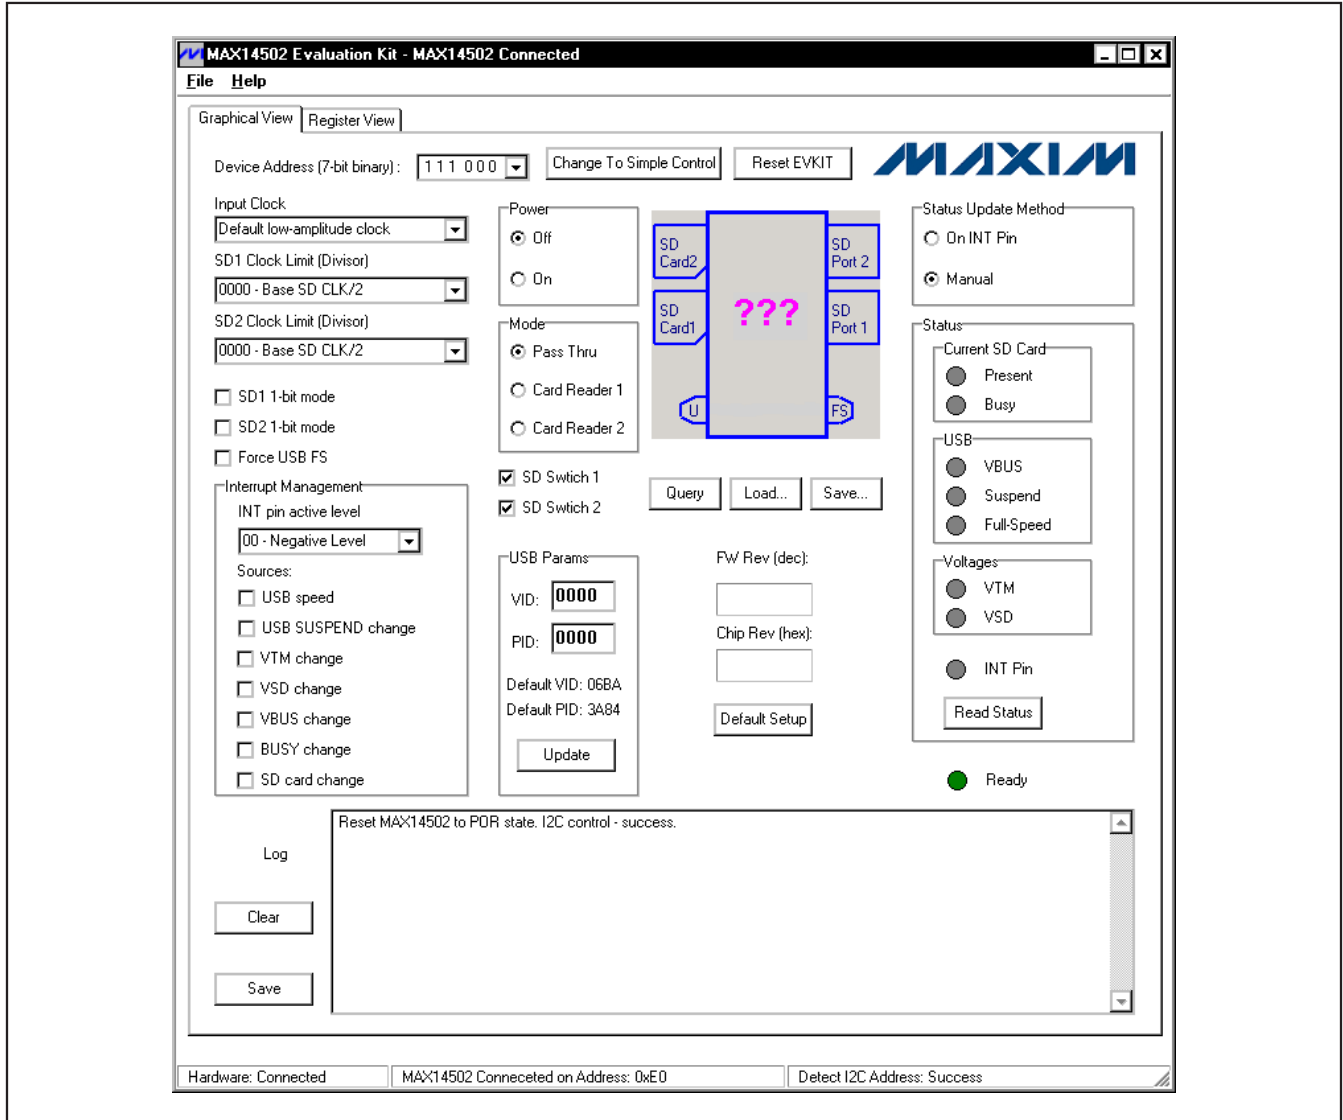

Figure 2. MAX14502 Software Main Window (Graphical View Tab)
- 17) Press the **Change To I2C Control** button to set the MAX14502 in I²C control mode. Verify that **MAX14502 Connected on Address: 0xE0** is displayed on the status bar. All the I²C register controls are available on the GUI, as shown in Figure 2.
When the **Graphical View** tab (Figure 2) is selected, a user has access to all of the I²C registers through the on-board USB-to-I²C bridge.